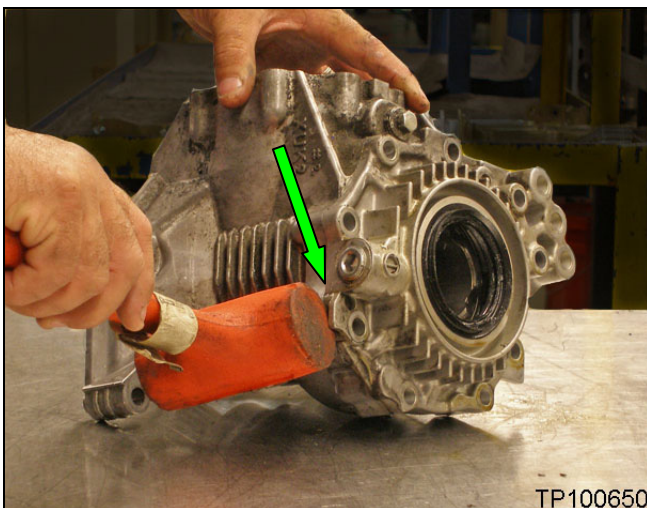

Figure 5
8. Remove the adaptor case from the transfer case by carefully tapping equally only on the areas noted in Figure 5 and 6.